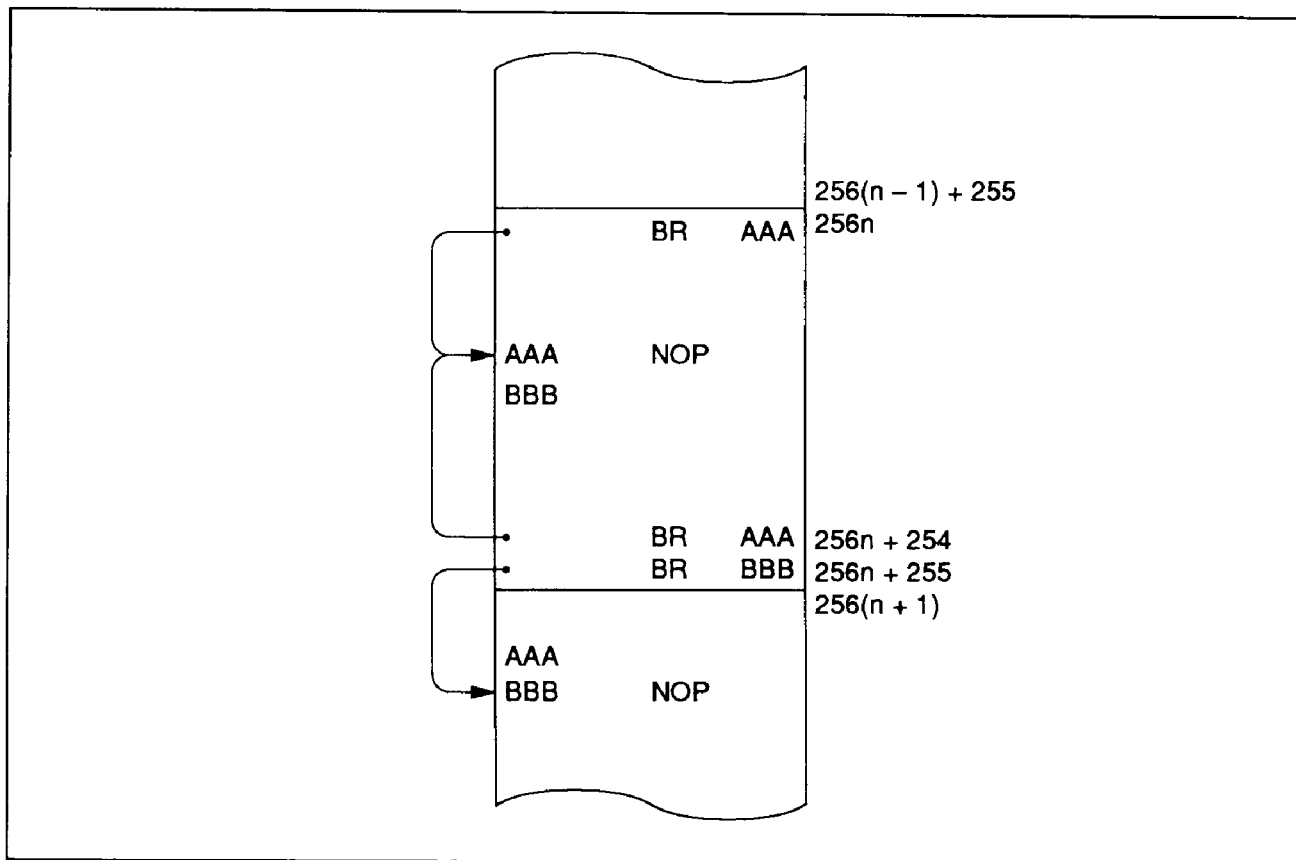

Figure 67 Branching when Branch Destination is on a Page Boundary
**Current Page Addressing Mode:** The MCU has 64 pages of ROM with 256 words per page. A program can branch to any address in the current page by executing the BR instruction. This instruction replaces the eight low-order bits of the program counter (PC7–PC0) with eight-bit immediate data. If the BR instruction is on a page boundary (address 256n + 255), executing that instruction transmits the PC contents to the next physical page, as shown in figure 67. This means that the execution of the BR instruction on a page boundary will make the program branch to the next page.